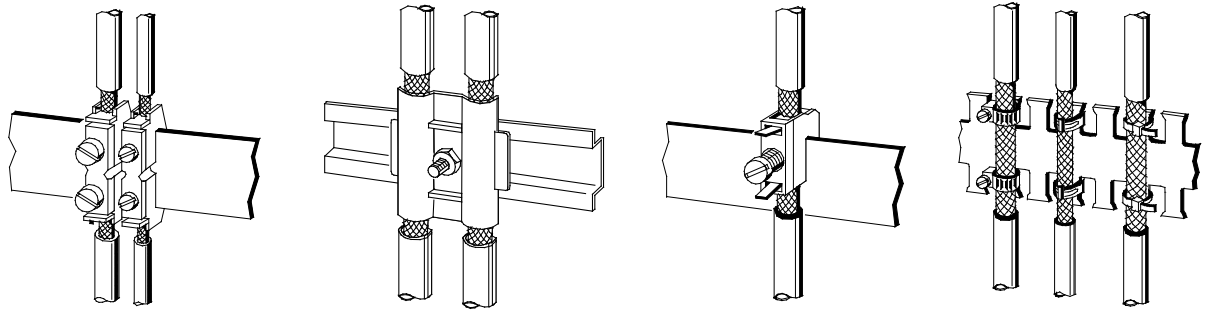

Figure 3-6. Examples of Securing Shielded Lines with Cable Clamps
- Use metal cable clamps for securing the braided shield. The clamps must enclose the shield over a large area and provide a good contact (see Figure 3-6).